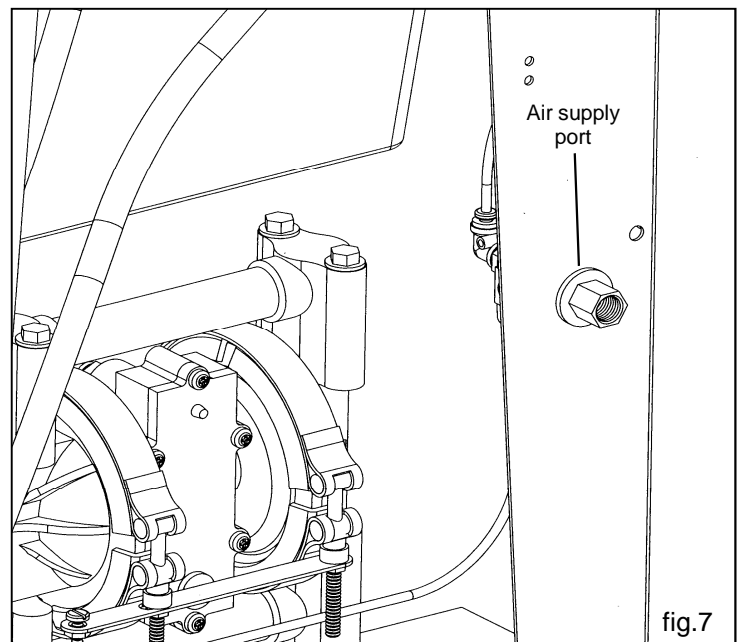

fig.7
- 1) Install a 1/4 in. npt male coupler, that is compatible with the quick disconnect of your air supply line, into the air supply port of the filter/regulator located on the right rear leg (see fig. 7).